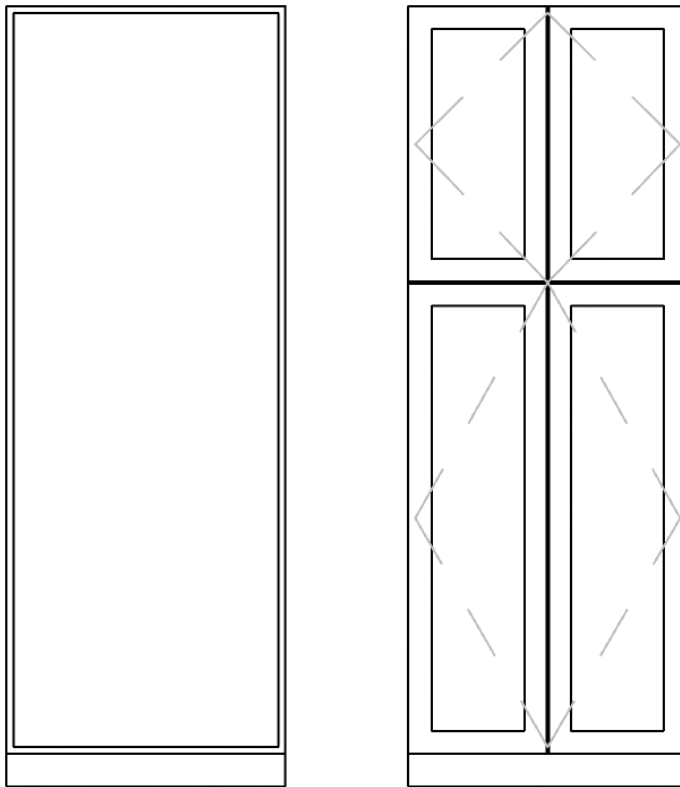

FIGURE 6.5 Coarse and Medium detail levels
7. The detail level of the view is currently set to Coarse. Change the detail level from Coarse to Medium and notice what happens. You now see the cabinet panels and swing lines in the view (Figure 6.5).